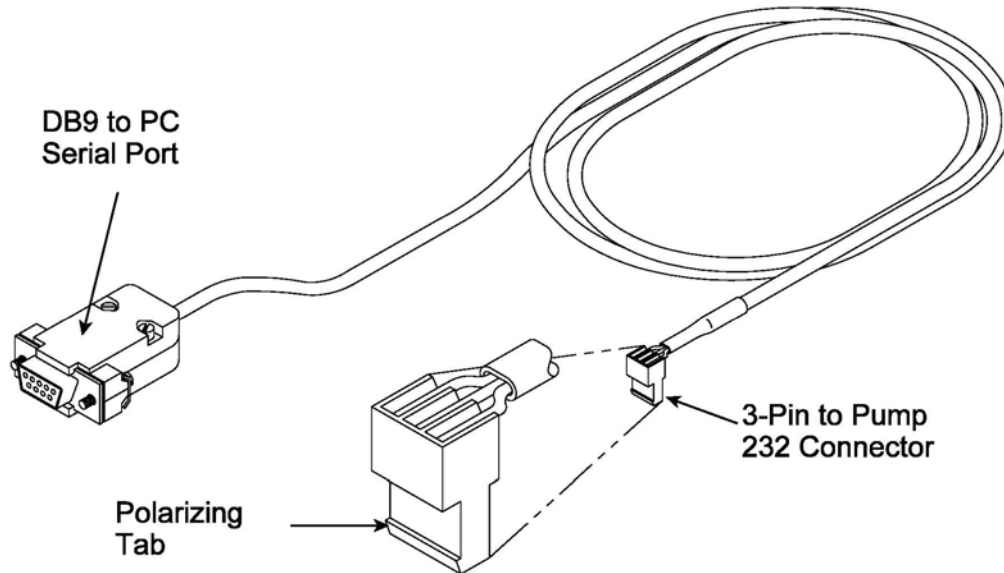

Figure 3-2 PC Serial Communications Cable P/N 17734
2. RS232 Communications cable, P/N 17734 (Figure 3-2)
THE Communications Cable (com cable) has a DB-9 connector on one end and a three-pin, 1-inch connector on the other end as shown in Figure 3-2. Plug the 3-pin connector into the adapter board connector labeled “232”. Note the polarization of the locking tab on the 3-pin connector as shown in Figure 3-1. Plug the DB-9 connector into serial port on the PC.